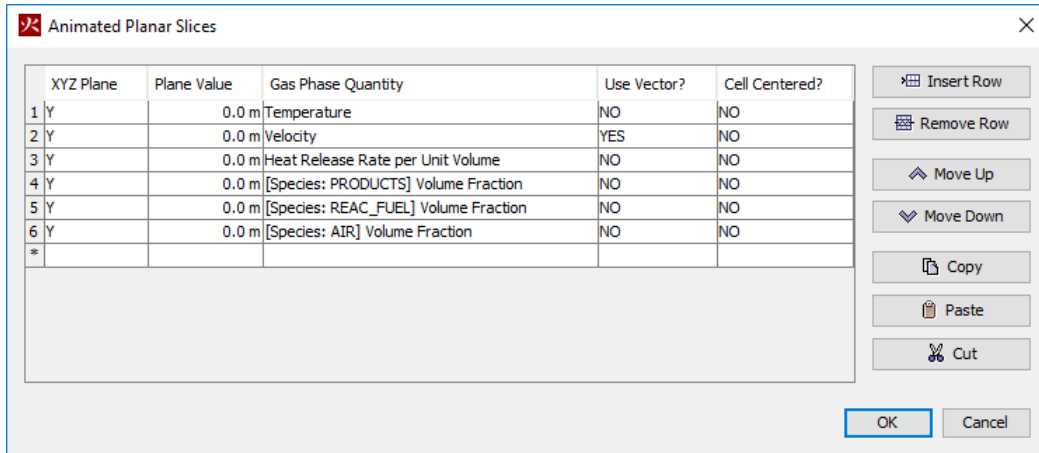

Figure 5: Defining the slice plane plots.
11. Repeat so that you are plotting the Volume Fraction of **AIR**, **PRODUCTS**, and **REAC\_FUEL**. See Figure 5. These plots will show us where the reaction is occurring. Air is supplied from the open boundaries, fuel is supplied by the fire surface, and products are the result of combustion.